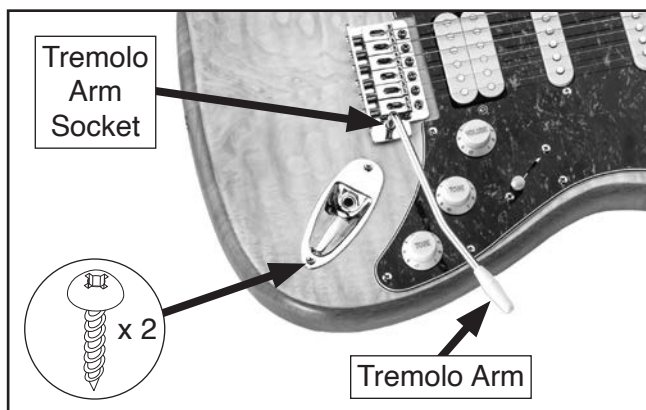

Figure 13. Output jack and tremolo arm installed.
10. Screw tremolo arm into tremolo arm socket, as shown in **Figure 13**.
4. Secure output jack to guitar body with (2) M2.5 x 8 tap screws (see **Figure 13**).